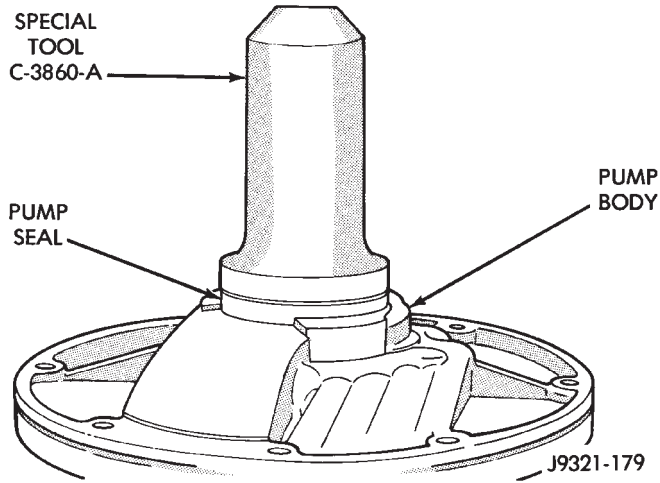

Fig. 60 Oil Pump Seal Installation—46RH
(4) Align and install reaction shaft support on pump body.
- (5) Install bolts attaching reaction shaft support to pump. Tighten bolts to 20 N•m (175 in. lbs.) torque.
- (6) Install new pump seal with Seal Installer C-3860-A (Fig. 60). Use hammer or mallet to tap seal into place.